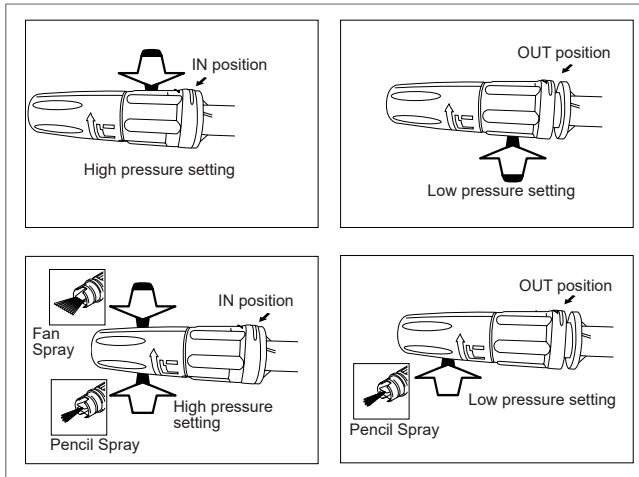

Fig.10
- The adjustable spray nozzle has two (2) positions (Fig. 10):